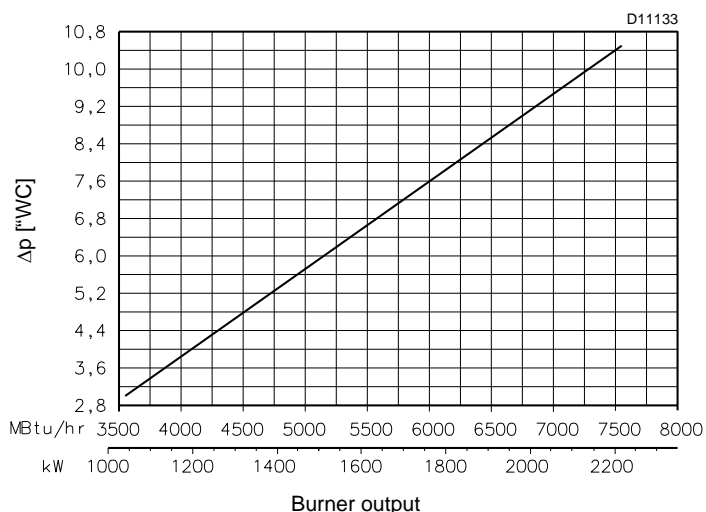

Fig. 29
- Find the nearest pressure value to your result in Fig. 29.